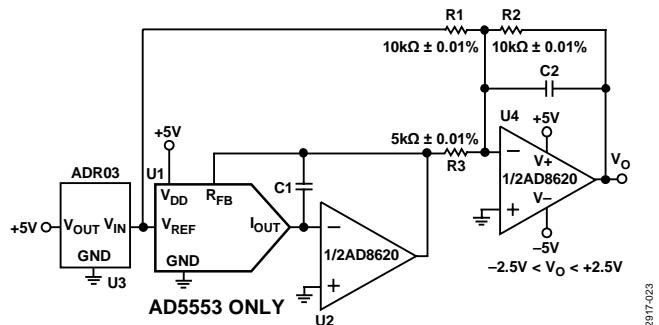

Figure 23. 4-Quadrant Multiplying Application Circuit
In some applications, it may be necessary to generate the full 4-quadrant multiplying capability or a bipolar output swing, which is easily accomplished by using an additional U4 external amplifier configured as a summing amplifier (see Figure 23). In this circuit, the second amplifier, U4, provides a gain of 2 that increases the output span magnitude to 5 V. Biasing the external amplifier with a 2.5 V offset from the reference voltage results in a full 4-quadrant multiplying circuit. The transfer equation of this circuit shows that both negative and positive output voltages are created as the input data (D) is incremented from code zero ($V_{OUT} = -2.5\text{ V}$) to midscale ($V_{OUT} = 0\text{ V}$) to full-scale ($V_{OUT} = +2.5\text{ V}$).